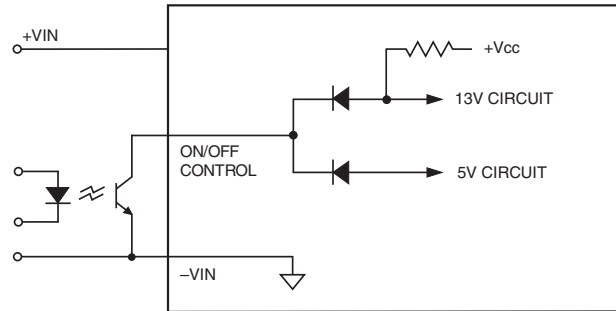

Figure 9. Driving the Negative Logic On/Off Control Pin (simplified circuit)
**Positive** (“P” suffix) logic models are enabled when the on/off pin is left open (or is pulled high, applying +3.5V to +15V with respect to –Input) as per Figure 9. Positive-logic devices are disabled when the on/off pin is pulled low (0 to 1V with respect to –Input).
high, applying +2.5V to +15V), and on when pin is pulled low (–0.1 to +0.8V) with respect to –Input as shown in Figure 9.